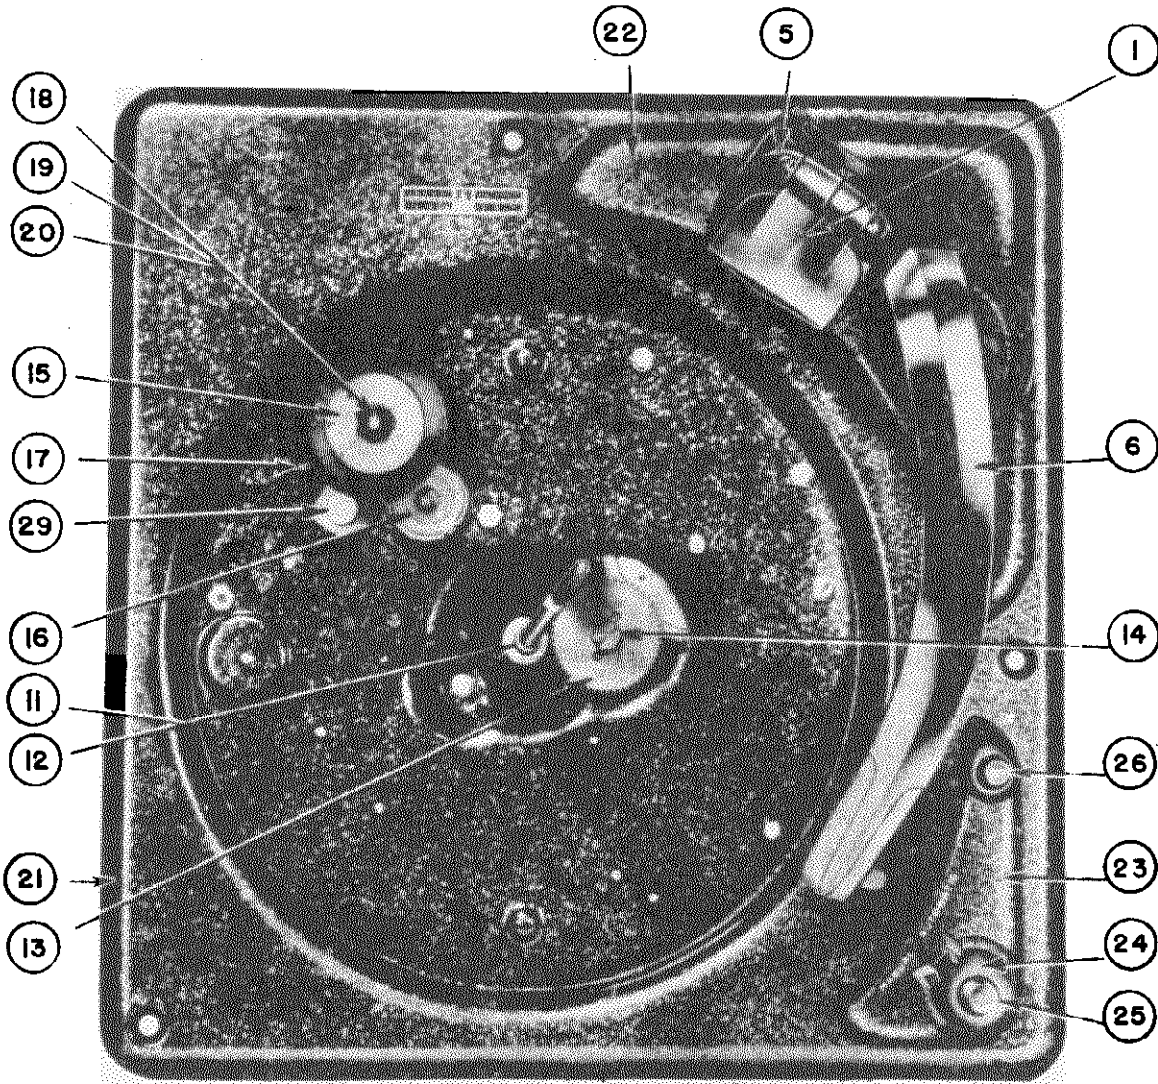

Fig. 4 - PARTS LOCATION - TOP VIEW
- 3 - Ball Bearing Assembly (Illus. 12 Fig. 4).
- 4 - Idler Wheel Felt (Illus. 19 Fig. 4).
- 1 - Idler Wheel Link (Illus. 16 Fig. 4).
- 3 - Teeth of Large and Small Idler Gears (Illus. 13 Fig. 4).
Do not permit any oil or grease to get on the rubber idler drive wheel or the Motor Pulley (Illus. 15 and 29, Fig. 4), on turntable drive rim or on the automatic trip arm clutch. Any oil or grease on these points should be removed using Carbon Tetrachloride.